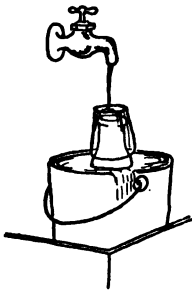

FIG. 61. Cooling with running water.
**129. Cooling with Running Water.** A very little stream of water from a faucet will cool the baby's milk and keep it from souring. The bottle should be set in a pan of water which is constantly renewed by the small stream running from the faucet. (Fig. 61.) This method of cooling should be used only in homes supplied with water from a spring or in an emergency. Under most circumstances, it is too extravagant a method of keeping food to be recommended. In cities it should be prohibited because it might cause too great a drain on the city water supply.
A larger device used for cooling milk is a tank of running water (Figs. 61-a-b). The water flowing thru this tank commonly flows into another tank used for the watering of